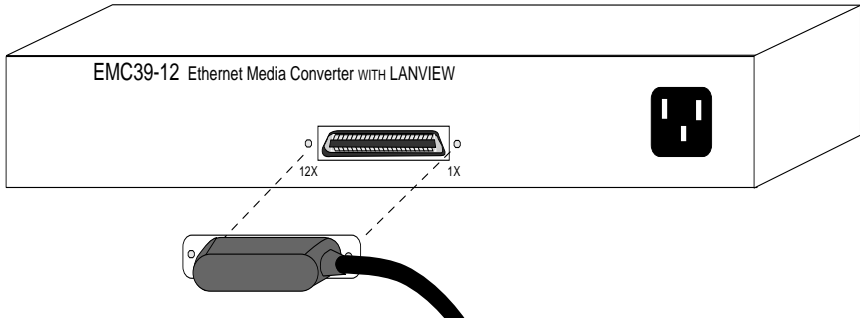

Figure 3-1 EMC39-12
1. Attach a 50-pin feeder cable to the Champ connector on the EMC39-12 as shown in Figure 3-1.